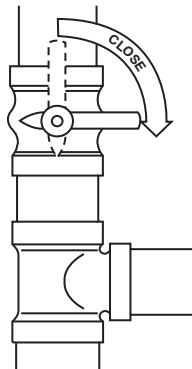

Fig. 17 - Close the External Manual Valve
2. Close the external manual gas valve. See Fig. 17.